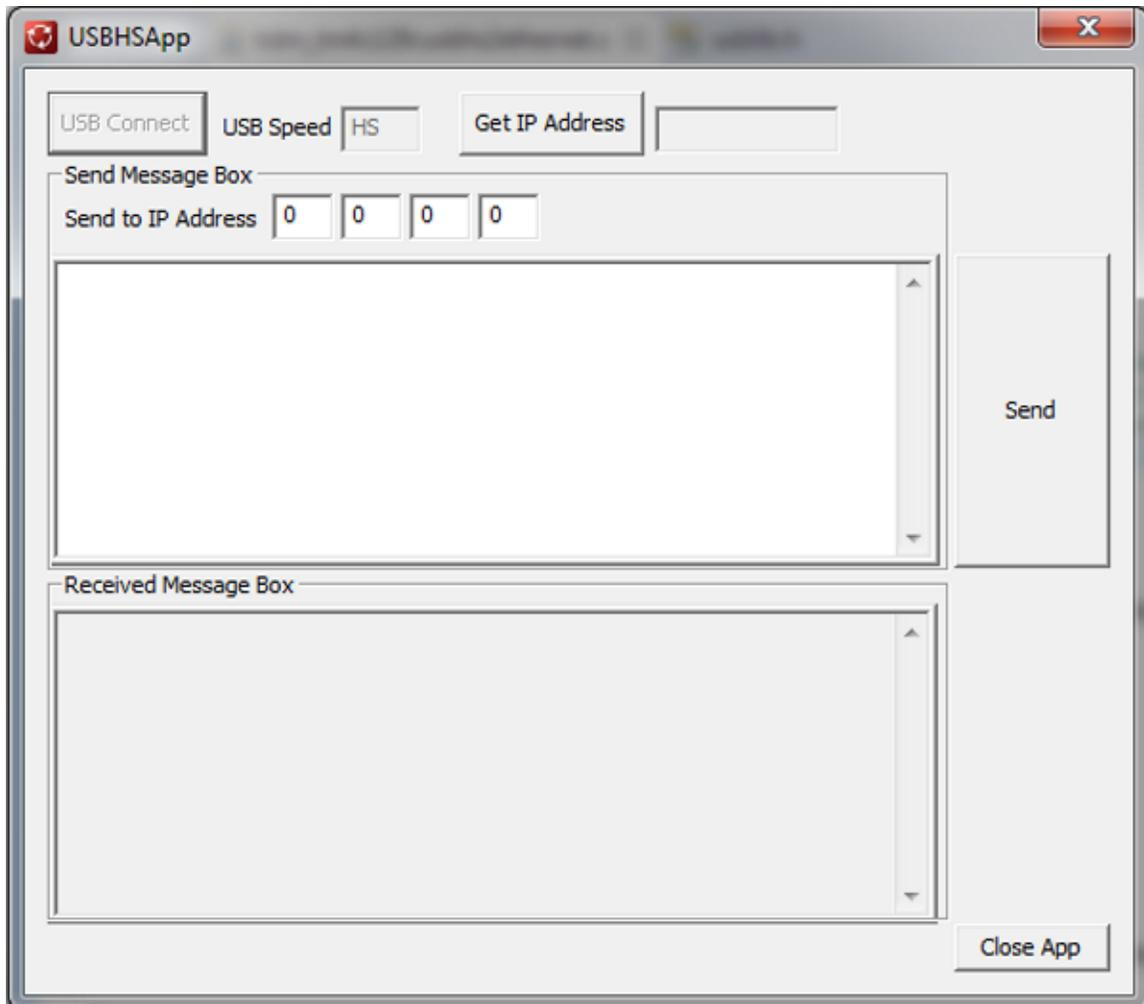

Figure 22. Running the USBHSAApp
10. As the device has been enumerated already, the USB Speed edit box shall now show *HS* as the operating mode and also enable the other buttons in the application (See Figure 22). If the switch S3 is pressed when the board is powered up or the board is reset then the USB Speed edit box shall show *FS* as the operating mode.